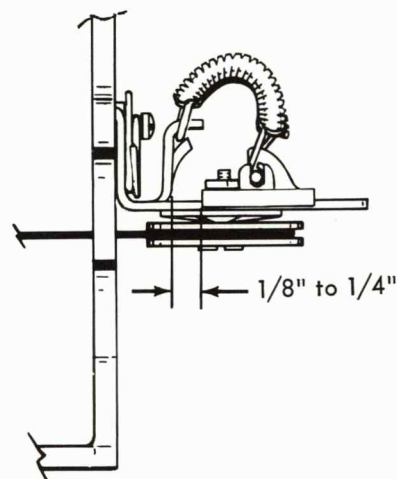

FIGURE 110C. Cord Tension
3. **Cord Tension** - With the cords properly threaded (Figs. 110 A & B), adjust the carrier return cord drum so that the pulley pivot screw nut clears the pulley bracket by  $1/8"$  to  $1/4"$  (Fig. 110C).